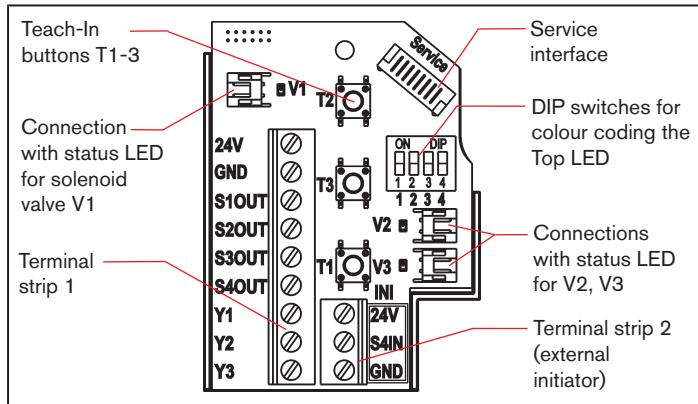

Fig. 4: Electronic module (24 V DC)
- Connect the wires to the terminal strips according to the pin assignments described in "Fig. 4".
An **external initiator** can be connected via the triple terminal strip 2 (see “Fig. 4” or see Operating Instructions, chapter “*Connecting an external initiator*”).